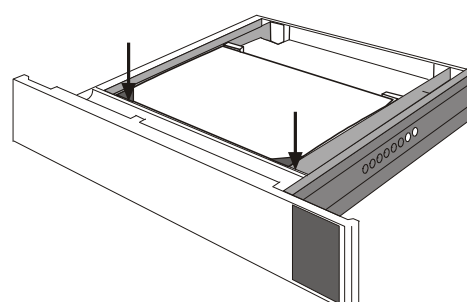

Fig. 16 Correct Paper Loading
- Push down the stack, such that all sheets are under the separation corners (Fig. 16).